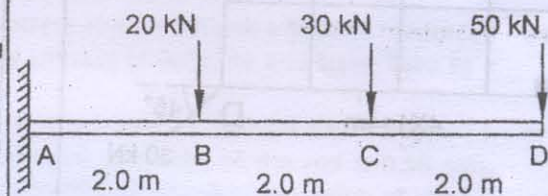

Fig. 11
- Que. 6.b Draw shear force and bending moment diagrams for a beam shown in Fig.11. 04